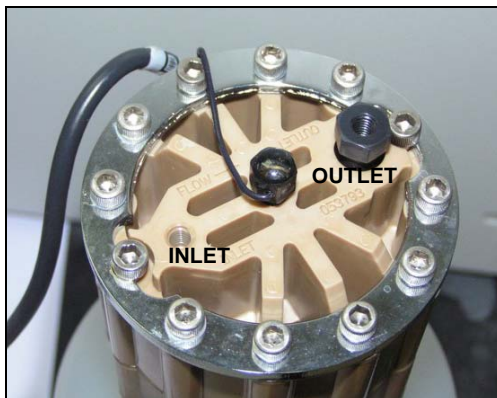

Figure 59. Dionex EluGen Cartridge Fitting Plugs
6. Orient the Dionex EluGen cartridge with the fittings facing up and remove the plugs from the cartridge **INLET** and **OUTLET** fittings (see Figure 59).